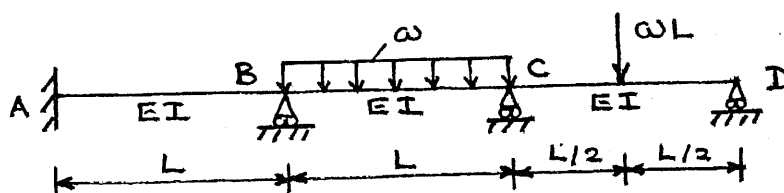

Fig. Q-2
2. Analyse the continuous beam shown in figure Q-2 using Stiffness method of structural analysis and draw the bending moment diagram. (20 marks)